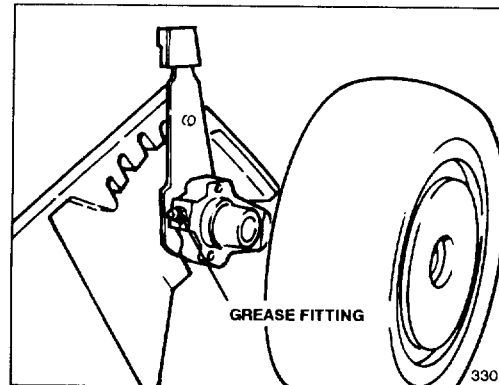

Figure 19
2. GREASE FRONT AXLE PIVOTS (Fig. 19) (model 16404 only)—Adjust height-of-cut to 3-inch setting and loosen wheel bolt to get additional clearance around grease fitting. Wipe grease fittings with clean rag. Install grease gun onto fitting and gently apply 2 or 3 pumps of #2 Multi-Purpose Lithium Base Grease. Excess pressure may damage seals.